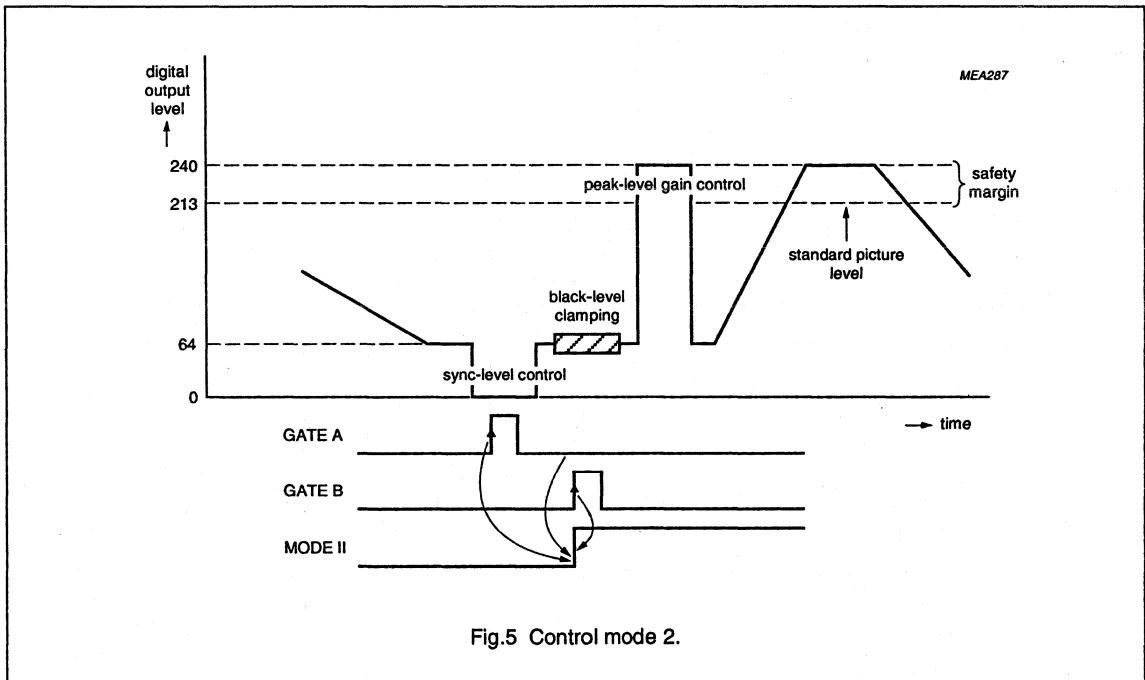

Fig.5 Control mode 2.
2. Mode 2 can only be initialized with successive pulses on GATE A and GATE B (see Fig.5)